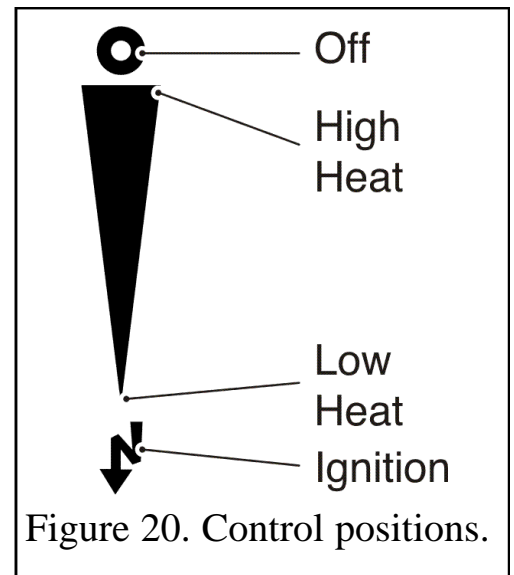

Figure 20. Control positions.
The control position markings on the fascia are shown in figure 20.
1. Gradually slide the button up to increase the burner setting. The burner should be at its maximum setting at the high heat position shown in figure 20. You should feel a check to the button movement at this position.